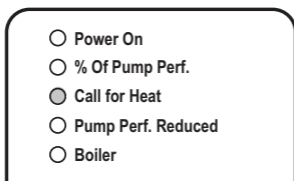

Figure 12 - Control Lights (Call For heat)
- Call For Heat LED is flashing (Fig. 12):